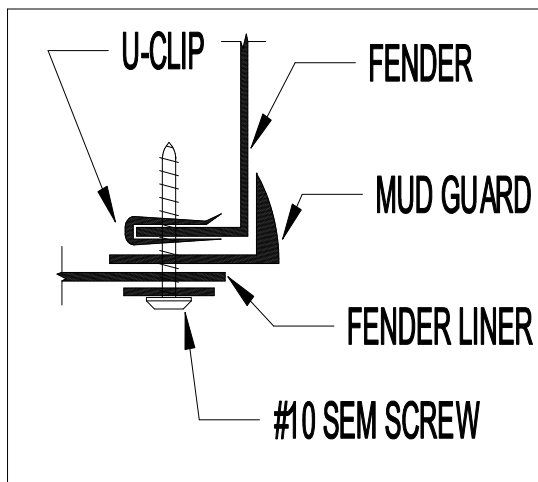

Figure 2
3. Pull fender liner back and install u-clips at locations A, C, D, and E (Figure 2).
4. Install mud guard between fender and fender liner using #10 SEM screws through liner, mud guard and into the u-clip, (Figure 2), check fit before tightening.